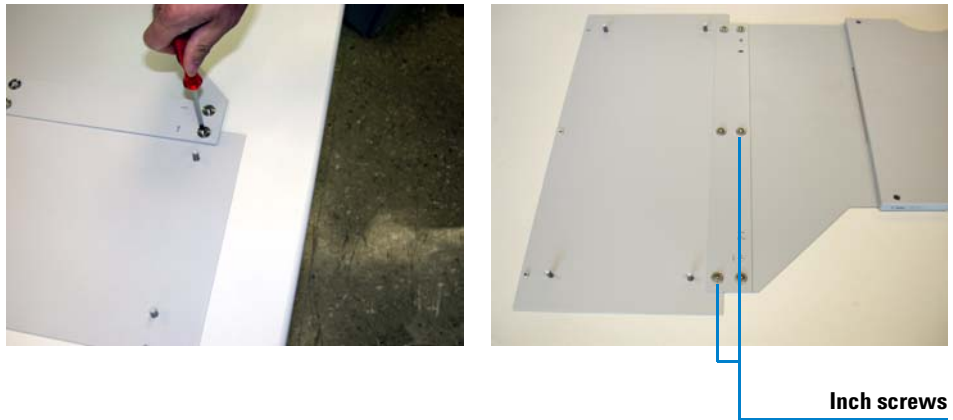

Figure 13 Assembling the sheet metal parts
- 14** Use the six *inch* screws from the G2255A Well-plate Handler package, together with the spacers and washers, to screw the sheet metal parts and the base plate from the Well-plate Handler together (see Figure 13). Fix the screws centrally in the adjustment slots.